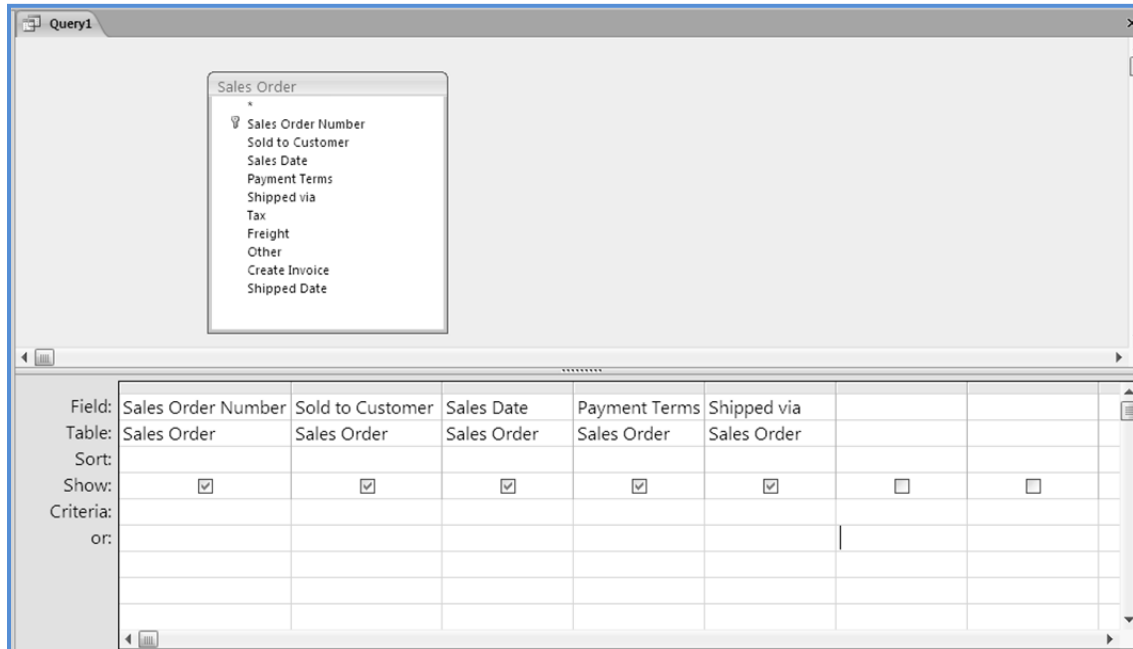

Fig. 1.4.1: Select Required Columns
3. Select the columns *Sales Order Number*, *Sold to Customer*, *Sales Date*, *Payment Terms* and *Shipped via* from *Sales Order* table and drag them to the columns tab as displayed in Fig. 1.4.1.